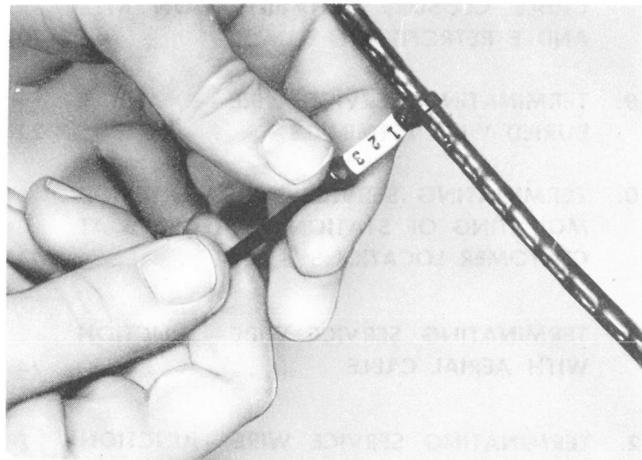

Fig. 2—Placing Tie and Marker
- TY-RAP* tie and marker (obtained from T&B Co., or equivalent obtained from W.H. Brady Co. or other companies with equivalent labels) (Fig. 2)—Twist off and retain locking head from nylon tie. Wrap the tie around the service wire and slip the tail of the tie through the eye of the grommet end and pull taut. Slide the desired preprinted tubular marker on the tail of the tie, then slide the locking head on the tie and push snug against the marker.